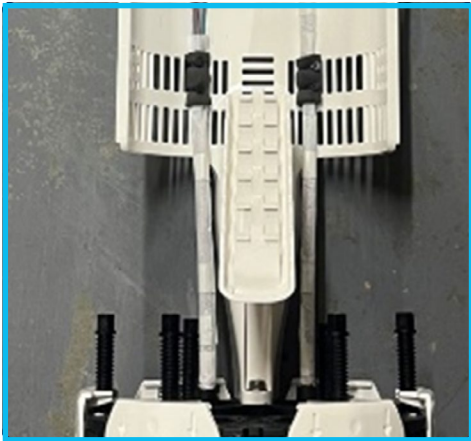

Figure 11.1
1. Prepare the cable as detailed in section 3 and secure it to the basket using foam and cable ties [figure 11.1].